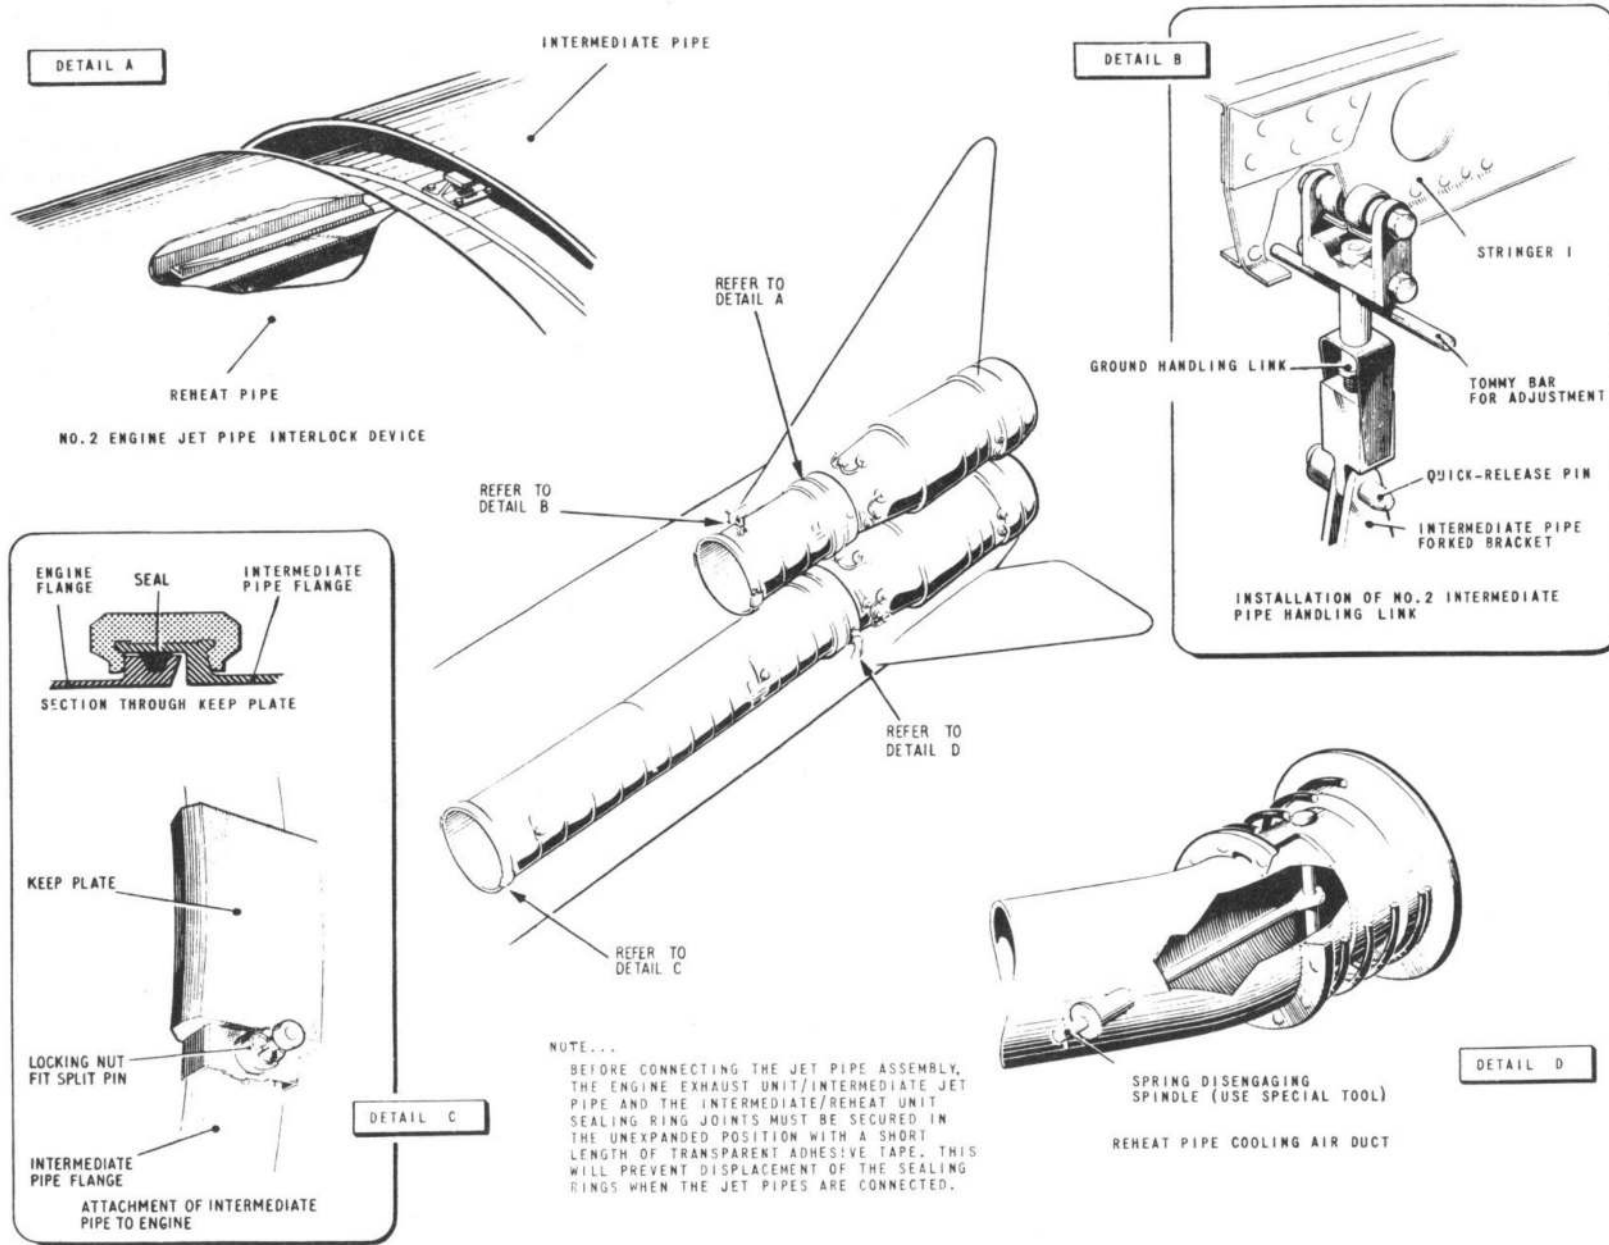

FIG. 20. JET PIPE-REMOVAL AND ASSEMBLY (I)
(26) Release the four fasteners securing the two sections of the overboard vented heat shield and remove the top half of the shield. Lower the bottom half gently on to the fire floor.
(27) Detach the keep plates (fig. 20, detail C) and substitute the two divorcing tools positioning them so that the flanged ends of the travellers abut the aft face of the flange on the engine exhaust unit. Using a suitable spanner rotate the pinions of the tools to separate the jet pipe from the engine.
(28) Remove the starter motor domed
(14) Support the intermediate pipe by mounting the rollers of the ground handling link, to the rail on stringer 1, and connecting the link to the pipe (fig. 20, detail B). Access is obtained by removing the access panel in frame 53.
(15) Refer to para. 37 (24), (25), (26) and (27) and release the intermediate jet pipe from the engine. Slide the intermediate pipe aft to engage the locking device (fig. 20, detail A), and disengage the handling link.
(16) Fit the cradle attachment brackets to frame 62 (para. 41 (15)).
(17) Remove the half clamps at the rear trunnion mountings on frame 62.
(fig. 20, detail B), and adjust on the link to align the pipe with the engine exhaust unit.